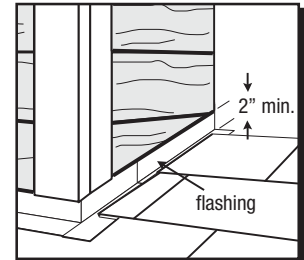

FIGURE 10
- At the juncture of the roof and vertical surfaces, flashing and counterflashing shall be installed per the roofing manufacturer's instructions. Provide a 2" minimum clearance between the roofing and the bottom edge of the siding and trim (fig. 10).